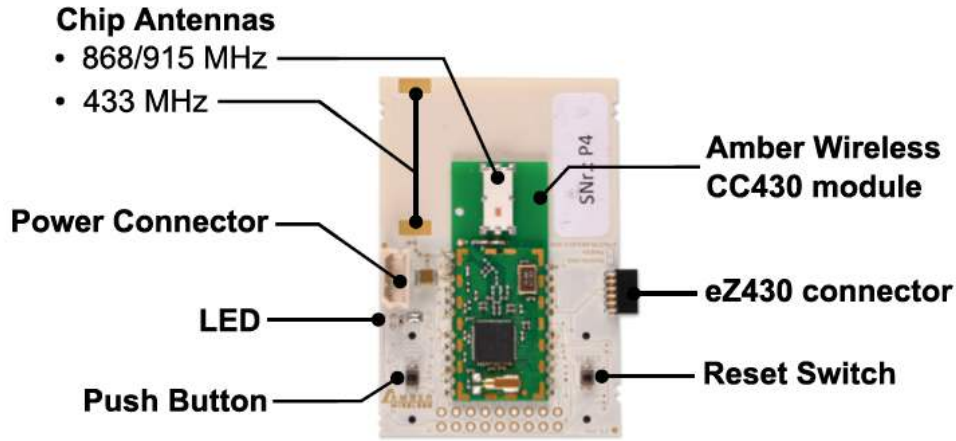

Figure 6. MSP-EXP430F5137Rx Satellite Board Hardware
2. The PCBs shown in Figure 5 and Figure 6 are UL flammability rated 94V-0.